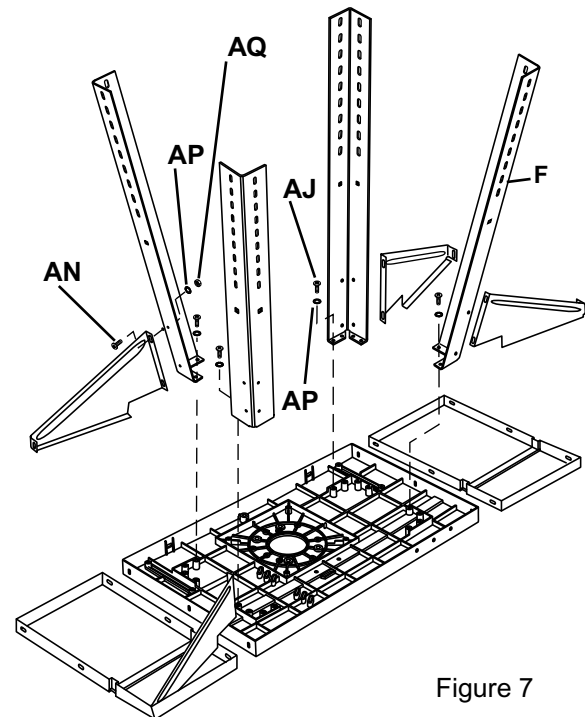
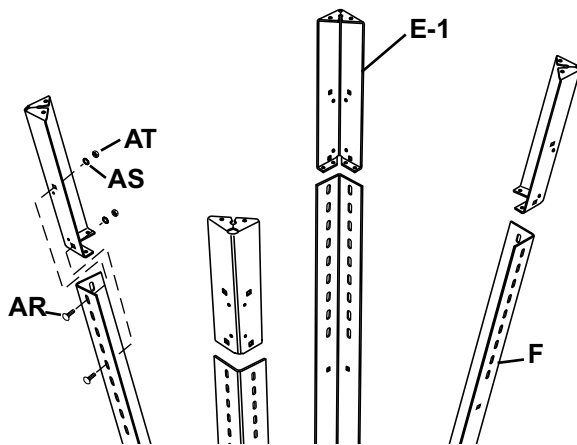

Figure 7
Figure 8
1. Mount four long legs (F) to table using four pan head screws (AJ) and four toothed washers (AP) per leg. Use a #3 Phillips screwdriver to keep from stripping the screw heads. See Figure 7.
2. Use 2 pan head screws (AN), 2 toothed washers (AP), and 2 hex nuts (AQ) to attach a support (C or D) to each long leg (F).
4. With the "foot" of short legs (E-1) pointing upward, align 2 holes in short leg with 2 holes in long leg at appropriate height. See Figure 8.
5. Thread 4 carriage bolts (AR) through the holes in both leg members. Assemble 1 toothed washer (AS) and 1 hex nut (AT) to each bolt. Tighten nuts.